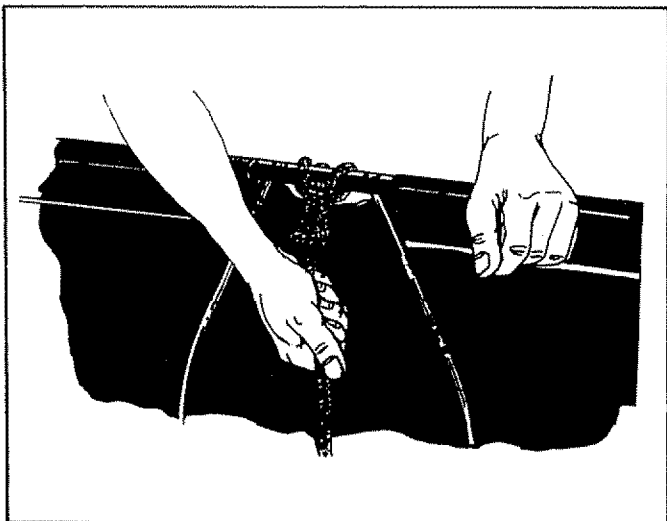

FIGURE 23
- Secure the rope to the top center of hopper bag frame as shown in figure 23.